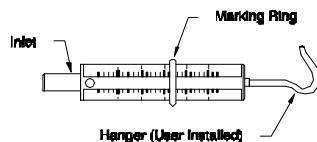

Figure 3: Flowmeter
**Flowmeter Assembly:** Figure 3. Provides visual indication of refrigerant leak flow rate.